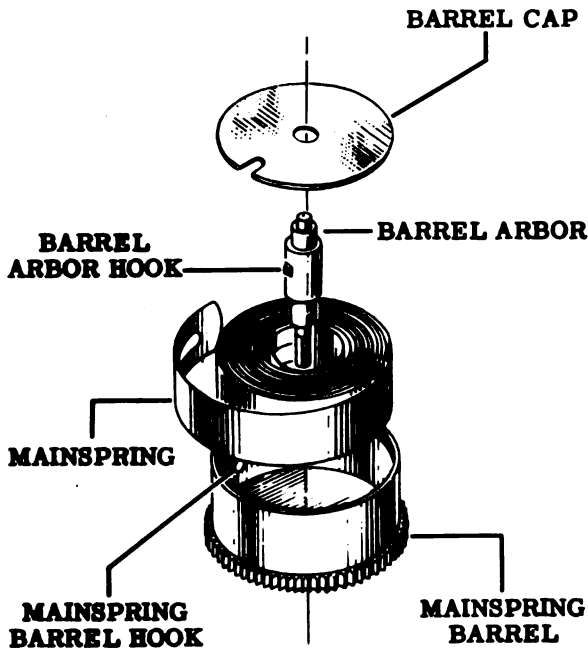

Figure 43—Mechanical Clock—Barrel Assembly
9. To remove the barrel cap, hold the barrel tightly in one hand and smartly strike the end of the barrel arbor farthest from the cap with a plastic- or a wood-headed hammer. The shoulder of the arbor will transmit this blow directly to the inside of the cap and force it out. See Figs. 43 and 44.
10. Unhook the barrel arbor from the mainspring and remove the arbor. Refer to Figs. 43 and 44.